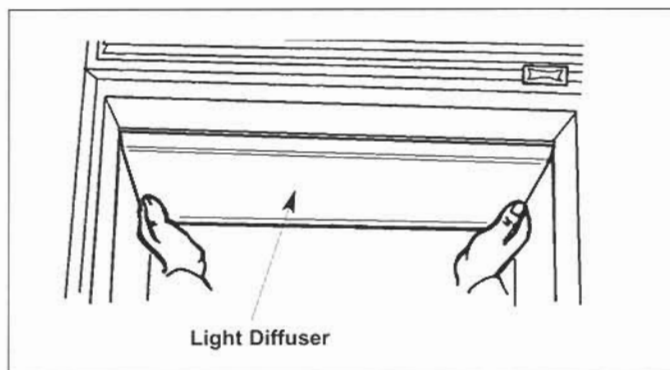

Figure 2-54. Light Diffuser
1. Remove the overhead light shield by grasping the back edge of the shield and pulling forward to release, then drop the front edge out of the channel. (Figure 2-54).
- Remove the overhead light shield by grasping the back edge of the shield and pulling forward to release, then drop the front edge out of the channel. (Figure 2-54).